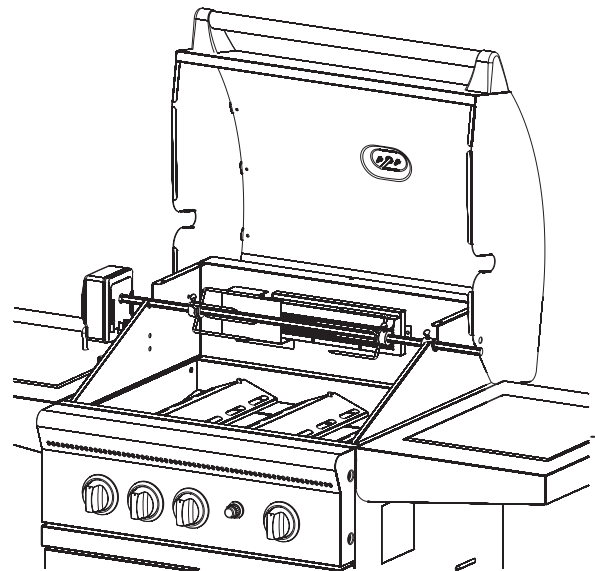

Figure 12
4. Slide a rotisserie fork onto each end of the spit. See Figure 12.
6. Slide the bushing onto threaded end of spit. Insert spit into slot of motor on left side of grill and place bushing into slot on right side of grill. Tighten thumbscrew on bushing. See Figure 12.